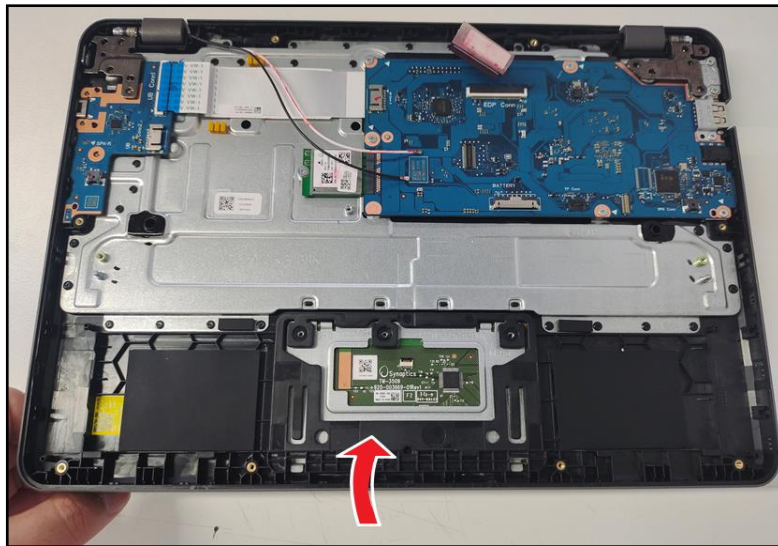

Figure 3-31. LCD Module Removal
12. Lift to slightly open the top assembly (Figure 3-31).